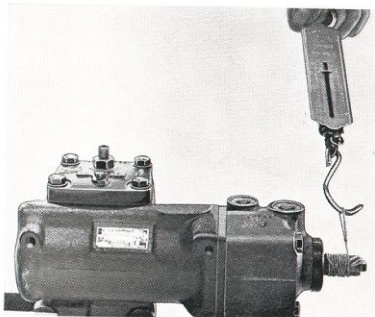

Fig. 6-102. Checking torque
15. Turn the steering spindle to the end position. Check for sufficient torque about 1/2 turn from the end position (Fig. 6-102). Adjust the steering spindle to the center position. Screw in the adjuster screw (11) so that a noticeable pressure point is obtained. Measure the torque and adjust so that the balance gives a reading of 45—60 N (10—13 lb) greater than at the end position, but max. 185 N (40 lb). Tighten the nut (17) to a torque of 25 Nm (18 lbf^t) while holding the adjuster screw in position.